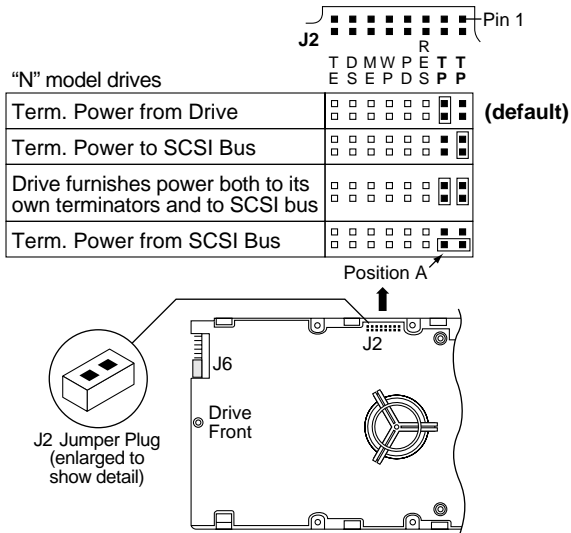

Figure 9. Setting terminator power jumpers
There are four possible terminator power (TP) configurations for “N” model drives (see Figure 9). You will not normally need to change this option and can leave the drive configured as it was shipped from the factory.